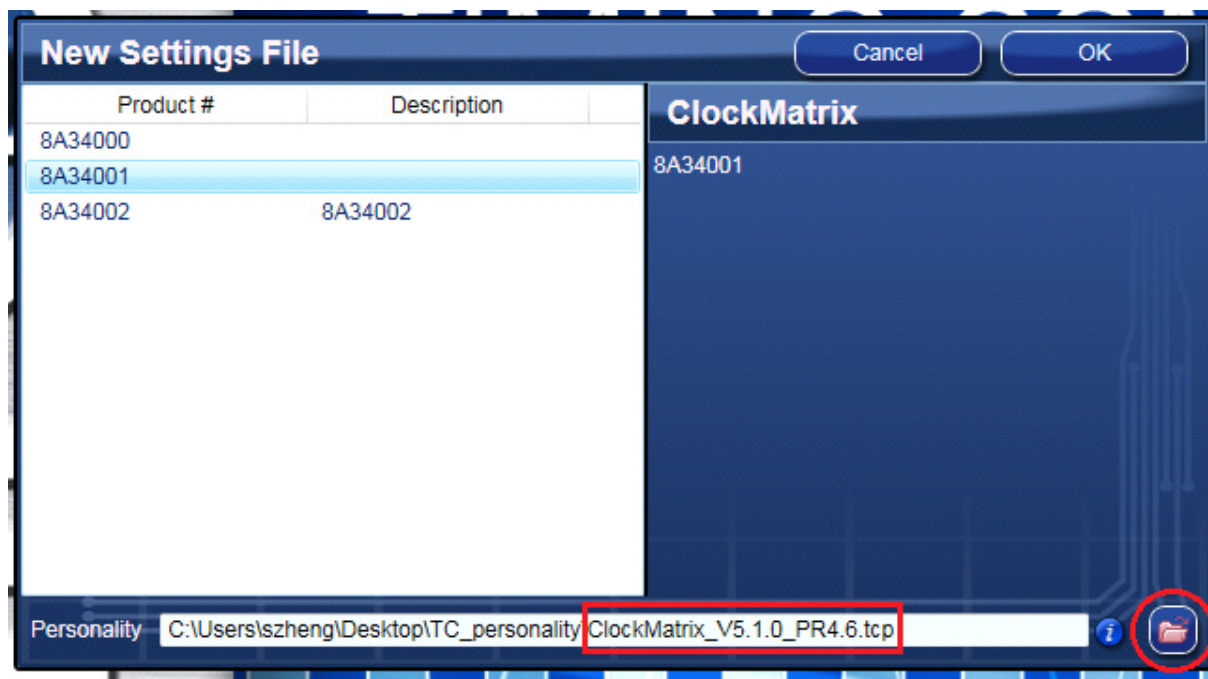

Figure 9. Selecting 8A34001 using Personality File v4.6
3. After selecting "New Settings File", a device selection window will pop up (see Figure 9). In the window, choose the intended device in the list (in this example, 8A34001 is selected).